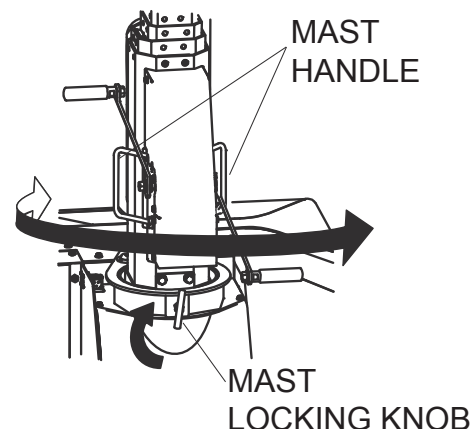

Figure 8. Rotating the Mast
6. With the mast in full vertical position, unscrew the mast locking knob to release the mast for rotation (Figure 8).